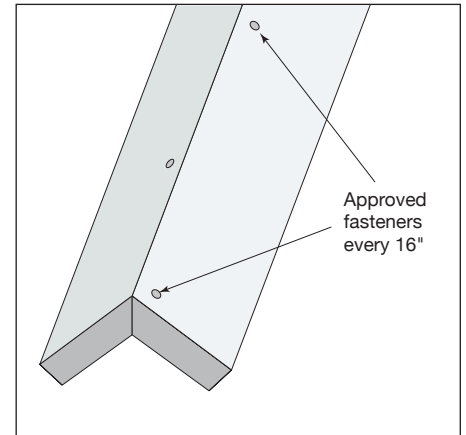

Fig. 14
- Nail the miter joint every 16 inches along the length of the trim to help ensure a tight joint as the glue dries (**Fig. 14**)